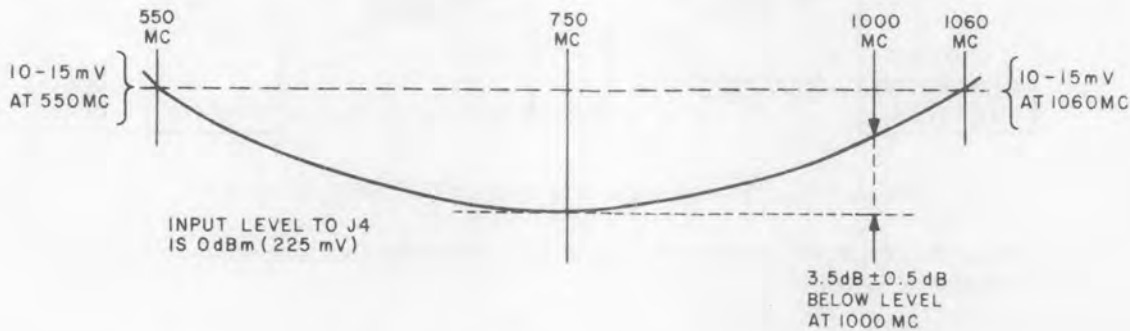

Figure 7-2. Response Sketch, Power Splitter Output J8
- (12) Connect the rf voltmeter to J6 and terminate J5.
- (13) Slowly tune the signal generator from 51.4 to 81.4 mc while observing the rf voltmeter. It should remain in the range of 10 to 30 mV.
- (14) Disconnect the HP-608E from J1; then terminate J1.
- (15) Connect the HP-612A signal generator to J4. Set the controls for a 1000 mc output at a level of 0 dBm.
- (16) Connect the rf voltmeter to J7 and terminate J6.
- (17) The rf voltmeter should indicate greater than -13 dBm. If it does not adjust C13 for a peak indication on the rf voltmeter.
- (18) Slowly tune the signal generator to 550 mc while observing the rf voltmeter. At no time should the reading be less than -13 dBm.
- (19) Retune the signal generator to 1060 mc.
- (20) Connect the rf voltmeter to J8 and terminate J7.
- (21) The rf voltmeter should indicate in the range of 10 to 15 mV. Record the level for use in the next step.
- (22) Slowly tune the signal generator from 1060 mc to 550 mc while observing the rf voltmeter. The level should decrease 3 to 4 dB at 750 mc (referenced to the 1000 mc level recorded in step 21) and increase to greater than 10 mV at 550 mc. Refer to Figure 7-2 for an idealized drawing of these conditions.